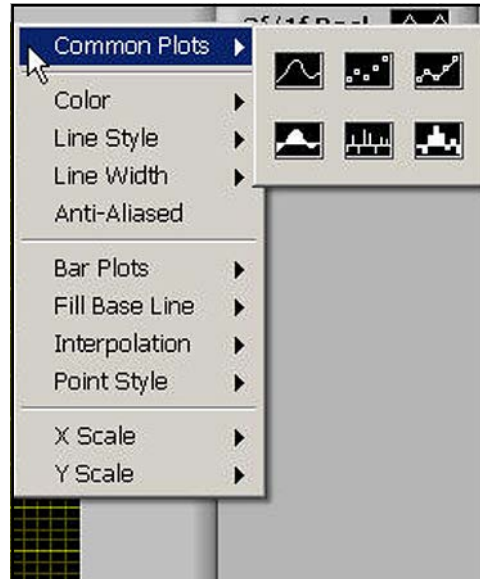

Figure 74: Options for Graphing Data
2. If you right-click on any series of data within the graph, or you click on the current parameter being-trended item in the legend, you will see a variety of options for graphing data (see *Figure 74* below). You can change to a variety of common plots and adjust color, line style, and line width. For some data sets with lots of finite points, you may want to click **Anti-Aliased** which will smooth the plot line. You can also change bar plots, fill base line, interpolation and point style. **X-Scale** adjusts the x-scale. **Y-Scale** adjusts the y-scale and enables the secondary y-axis.